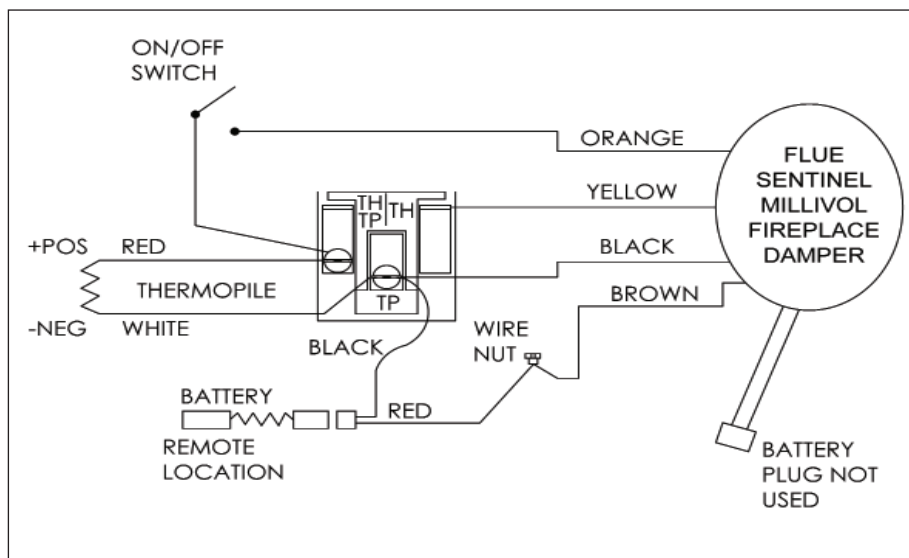

Figure 2: Original (FSM) Battery Location Installation
- Figure 2 is the Basic Wiring Diagram for a FSM with a millivolt gas valve typically used with gas log sets and must be wired as shown in Figure 2. The battery is to be located within the FSM Damper.
|                                                         | Thermopile polarity reversed*                      | Re-connect thermopile leads per Figure 2                                                                                                                                                                                                                                                                                                                                                                                                                                                                                                                                                                                                                                                                                                                                                               |